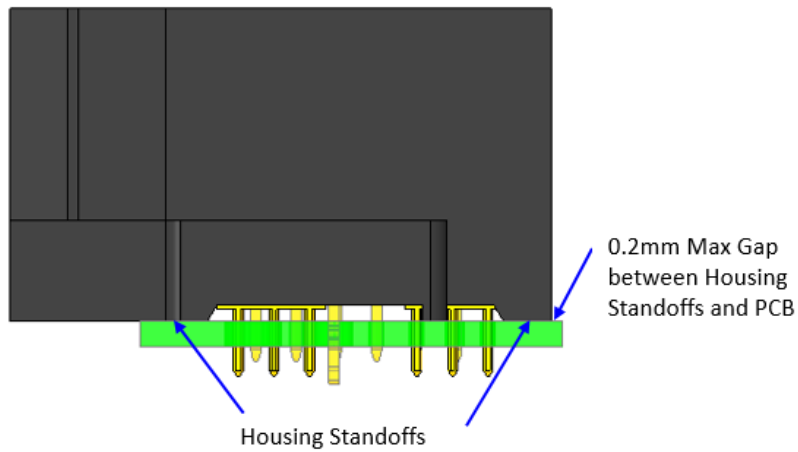

Figure 7
- b. Visually assure that the plastic standoffs on the bottom of the assembly are seated within 0.20 mm of flush to the PCB but not crushed (see Figure 7). A larger gap beneath the standoffs may indicate that the product is not seated parallel or perpendicular to the board. In the case of the plug, this can cause misalignment with adjacent components.